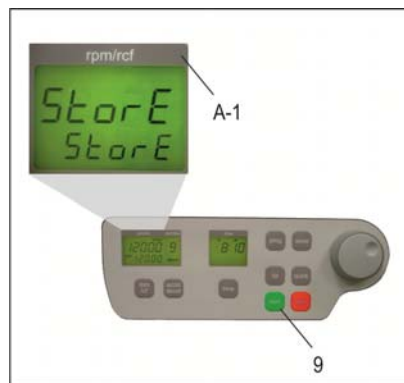

Figure 4
- All changed settings must be confirmed by the key „start“ (9). As an optical confirmation appears the word „store“ in the display „rpm/rcf“(A-1) - Only then the pre-selections are valid! (see figure 4).